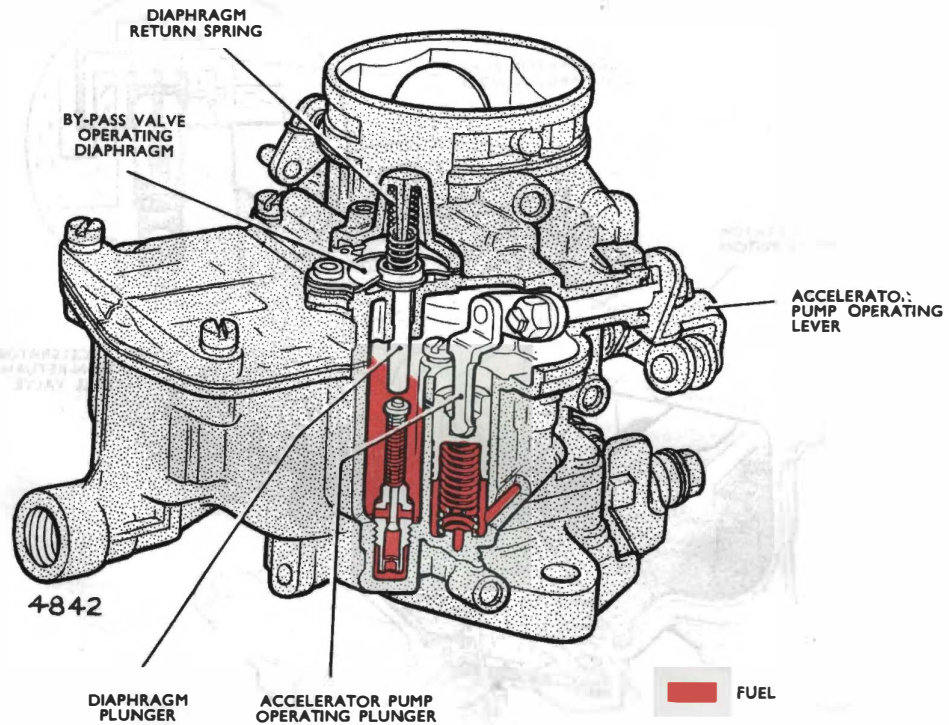

Fig. 12. By-pass valve and accelerator pump operating mechanism
**The accelerator pump (See Figs. 12 and 13)**